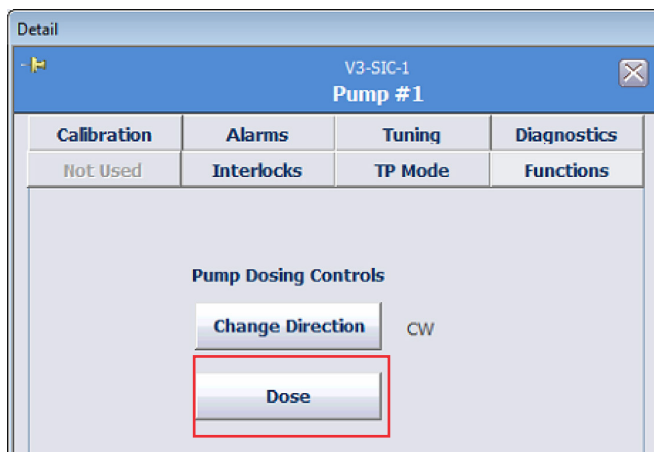

Figure 5.16. Dose on Pump Dosing Controls screen.
2. Click the **Functions** tab. Then click **Dose** (Figure 5.16).